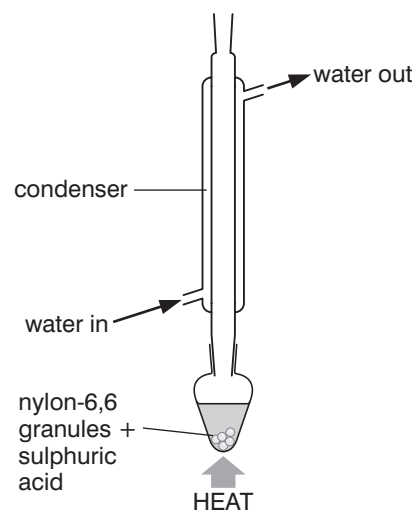

Figure 1 Breaking down the nylon
- 2 Pour 35 cm³ of 30% sulphuric acid into the flask. (**CARE** Sulphuric acid of this concentration is very corrosive.) Fit the condenser to the flask (Figure 1).